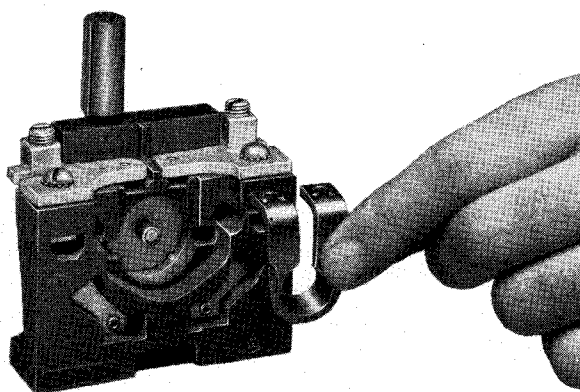

FIG. 1. Thermal Overload Relay
3. The overload heater is shipped in a separate carton. First check the heater marking (adjacent mounting holes) against the Heater Application Tables to see that the full load current marking of the motor nameplate comes within the current range of the heater. Install heater as shown in Fig. 1, making sure that heater mounting screws are tight.